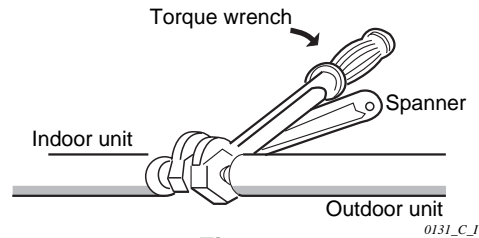

Fig. 7-6
- (1) Tightly connect the indoor side refrigerant tubing with the outdoor side tubing. (Fig. 7-6)
- (2) To fasten the flare nuts, apply specified torque as: